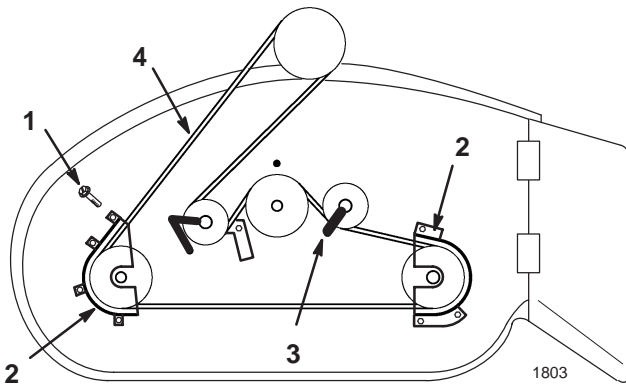

Figure 29
- Remove the pulley cover mounting screws and pulley covers from blade pulleys (Fig. 29).
- Loosen the idler pulley mounting bolts to move the belt guides (Fig. 29).
- Remove the belt from the pulleys (Fig. 29).
- Adjust belt guide on the idler pulley as shown and tighten the mounting bolt (Fig. 29).
- Install the left and right pulley covers with the mounting screws (Fig. 29).